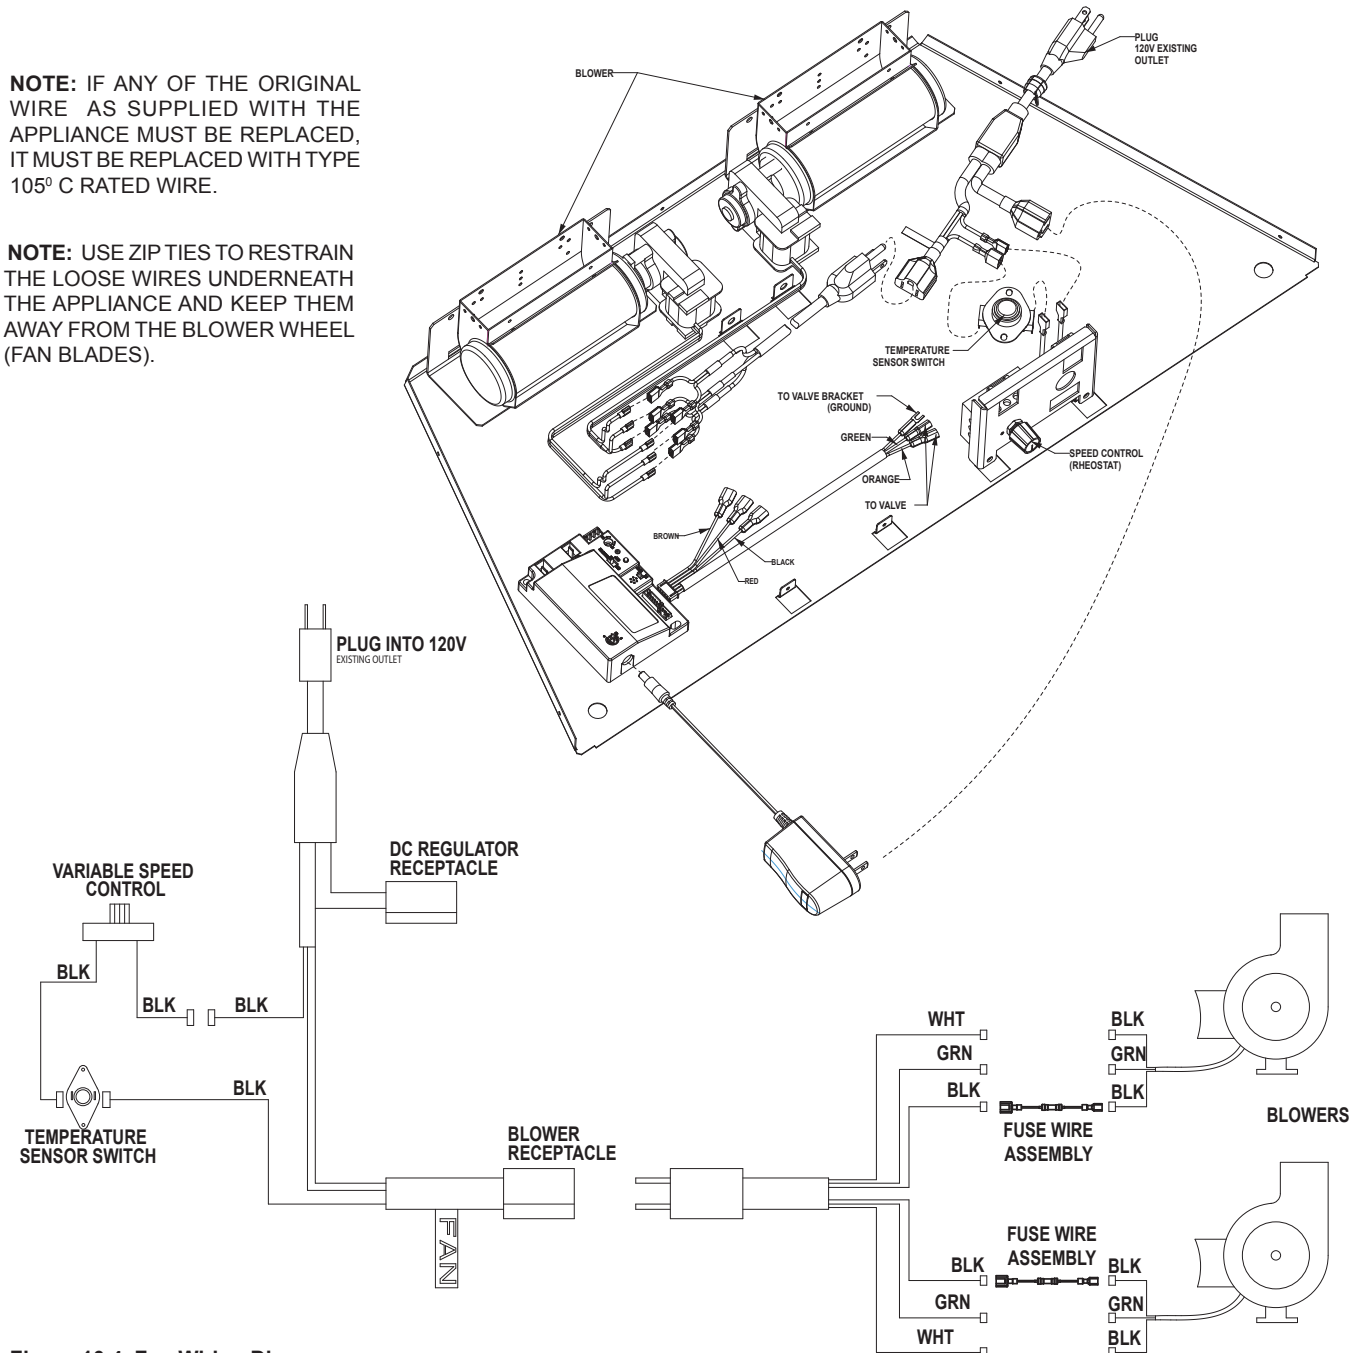

Figure 10.4 Fan Wiring Diagram
- To connect optional accessories, the supplied cord assembly should be used. See attached Figure 10.4 for a wiring diagram for a blower or remote.